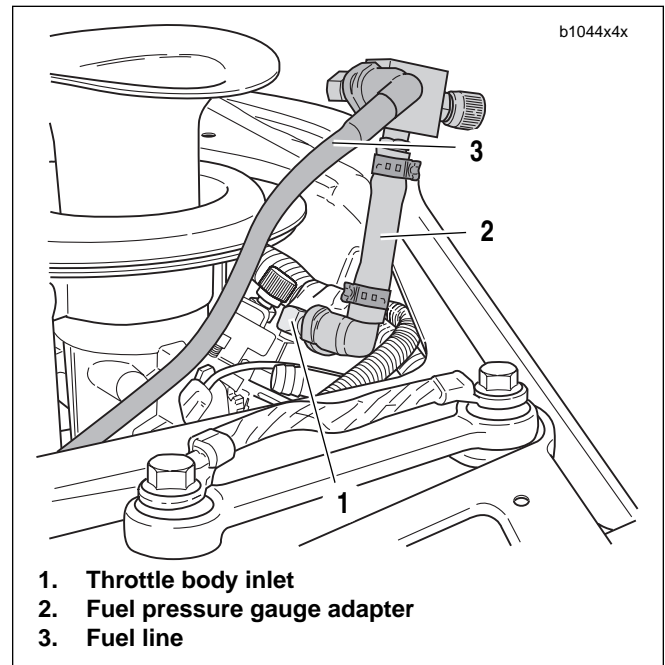

Figure 4-26. Fuel Pressure Gauge Adapter
4. See Figure 4-26. Attach FUEL PRESSURE GAUGE ADAPTER (Part No. B-45522) (2) to throttle body inlet (1).
5. Connect the fuel line (3) to fuel pressure gauge adapter.